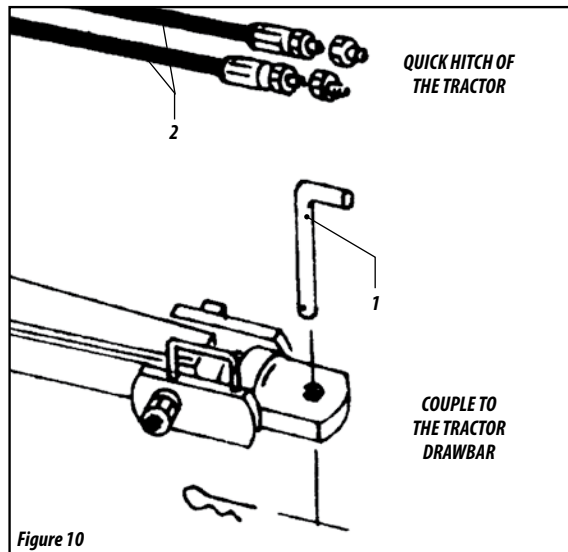

Figure 10
- 01 - To couple the disc harrow to the tractor drawbar, their alignment should be observed, adjust the exact height of the disc harrow and use the coupling pin "L" item 1 Figure 10.